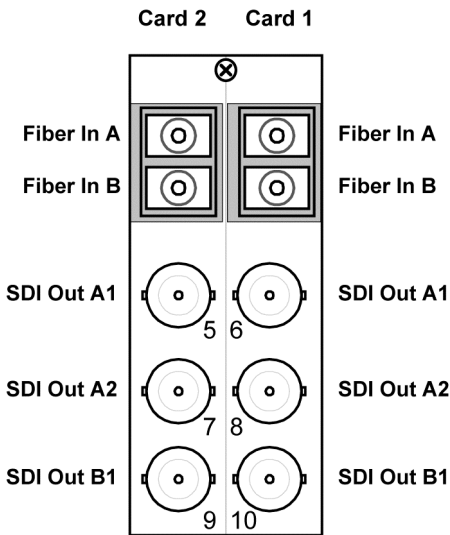

Figure 2.6 Cable Connections for the **RM20-9213-B/S** Rear Module
- **RM20-9213-B/S** Split Rear Module — Each 9213-2OE occupies one slot and provides two optical inputs, and three SDI outputs. **Figure 2.6**